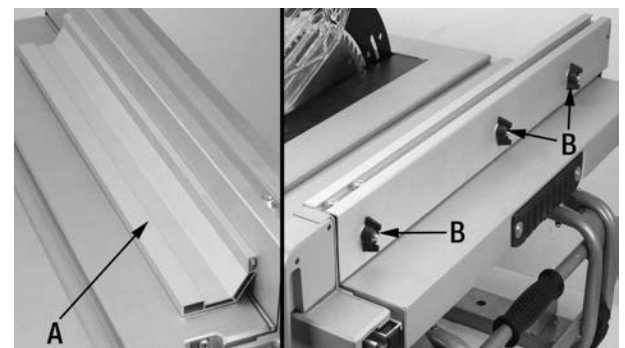

FIGURE 11
An horizontal position aluminum guide (A) Fig.11 can be installed to left side of the rip fence body in the horizontal position as shown. This aluminum guide is mainly used to safely rip thin and narrow stock, especially when cutting workpieces with the blade tilted to 45 degrees. Insert three long hex. bolts into the left side in the rip fence body, loosely secure the hex. bolts with washers and lock knobs (B). Slide the T-slot of the aluminum guide over the head of each hex. bolt, once in position, tighten lock knobs (B).
NOTE: It is not recommended to use the horizontal position aluminum guide (A) Fig.11 with the extension table extended.